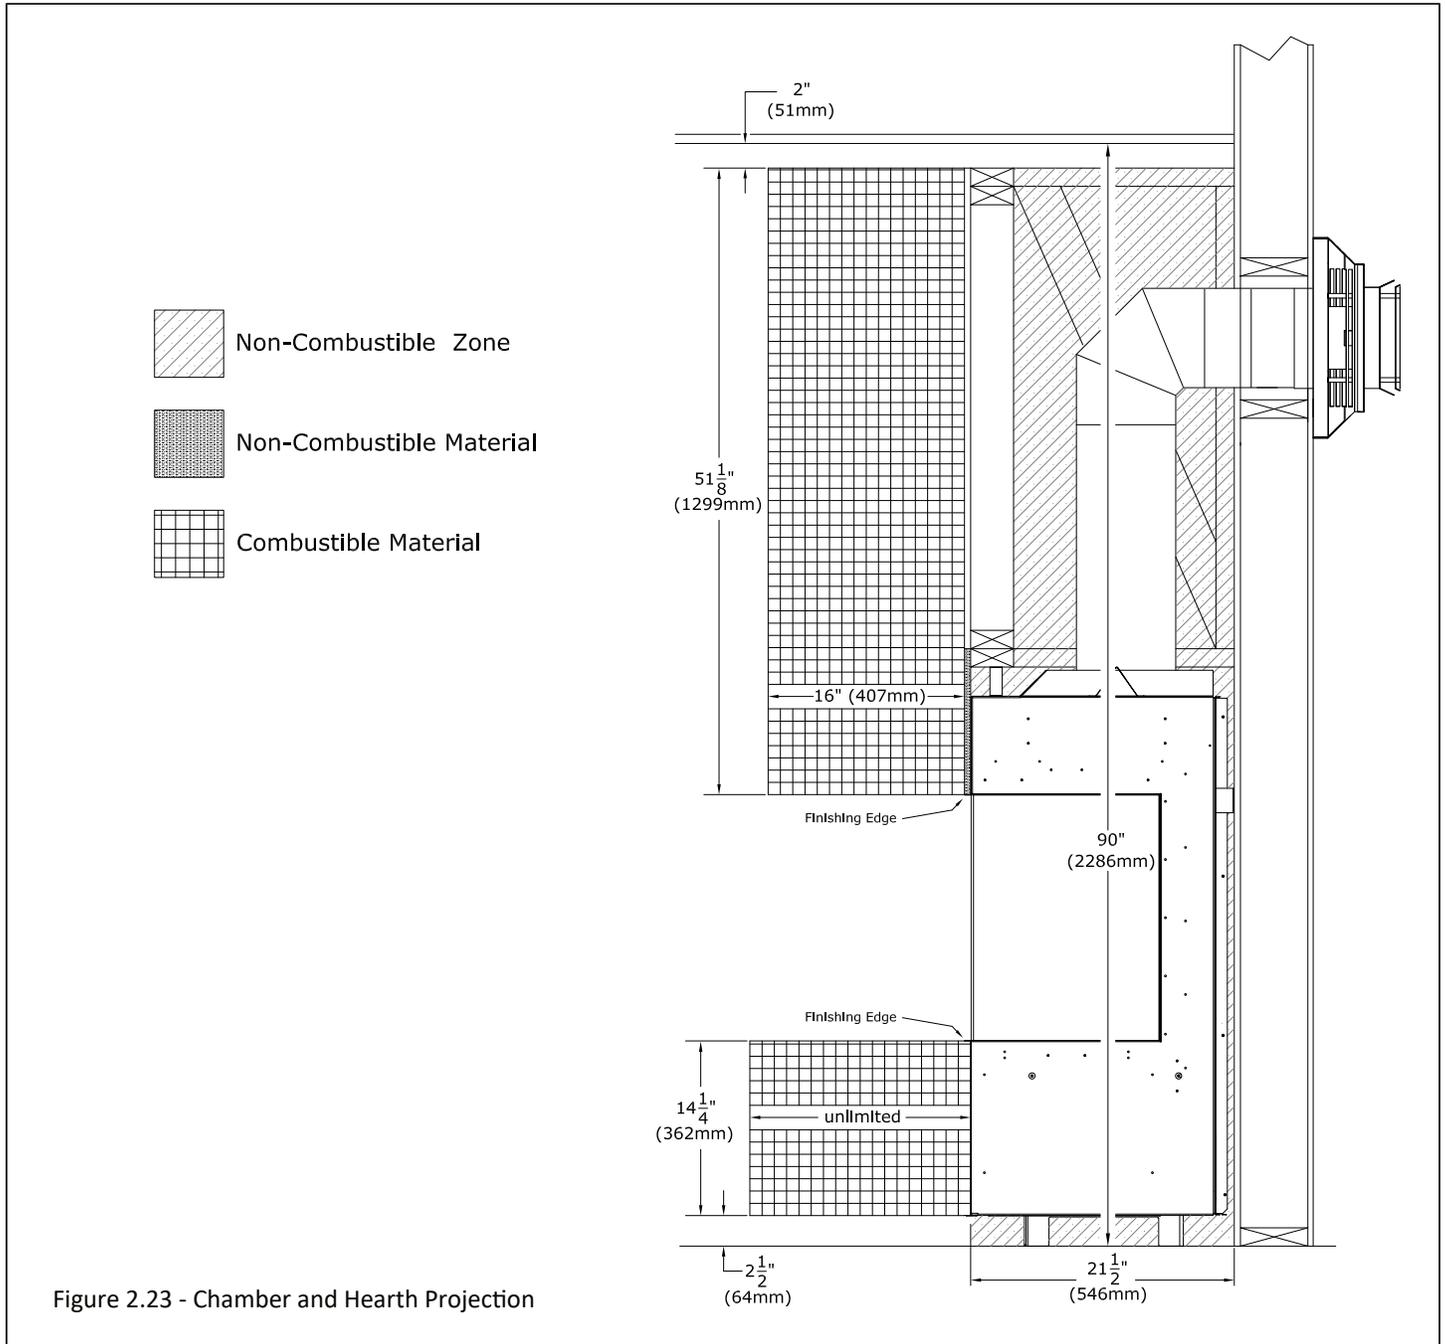

Figure 2.23 - Chamber and Hearth Projection
- **Combustible Chamber Projections:** A maximum of a 16" (406mm) chamber projection can be installed flush at the side and top finishing edge of the fireplace. See Figure 2.23.
Figure 2.23 shows a 16" combustible front chamber projection with a vented cavity. The air intake and heat release openings of the fireplace chamber must maintain their clearances for the option you have chosen throughout the entire fireplace chamber and projection.